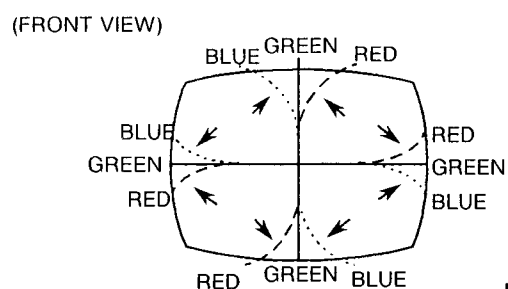

Fig. 2
1. Move the deflection yoke up and down and overlap the lines in the periphery. (Fig. 2)